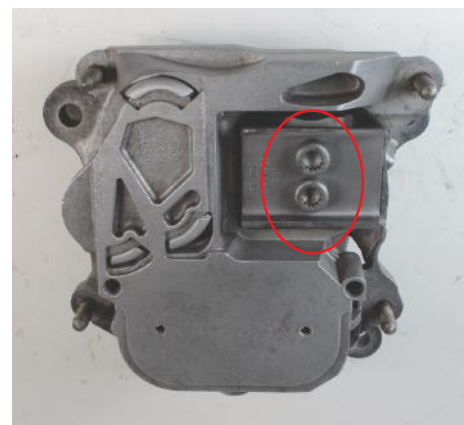

Figure 1: Locate mount plate and screws
2. Remove any covers or under-trays beneath transmission, and locate the transmission mount (Figure 1).